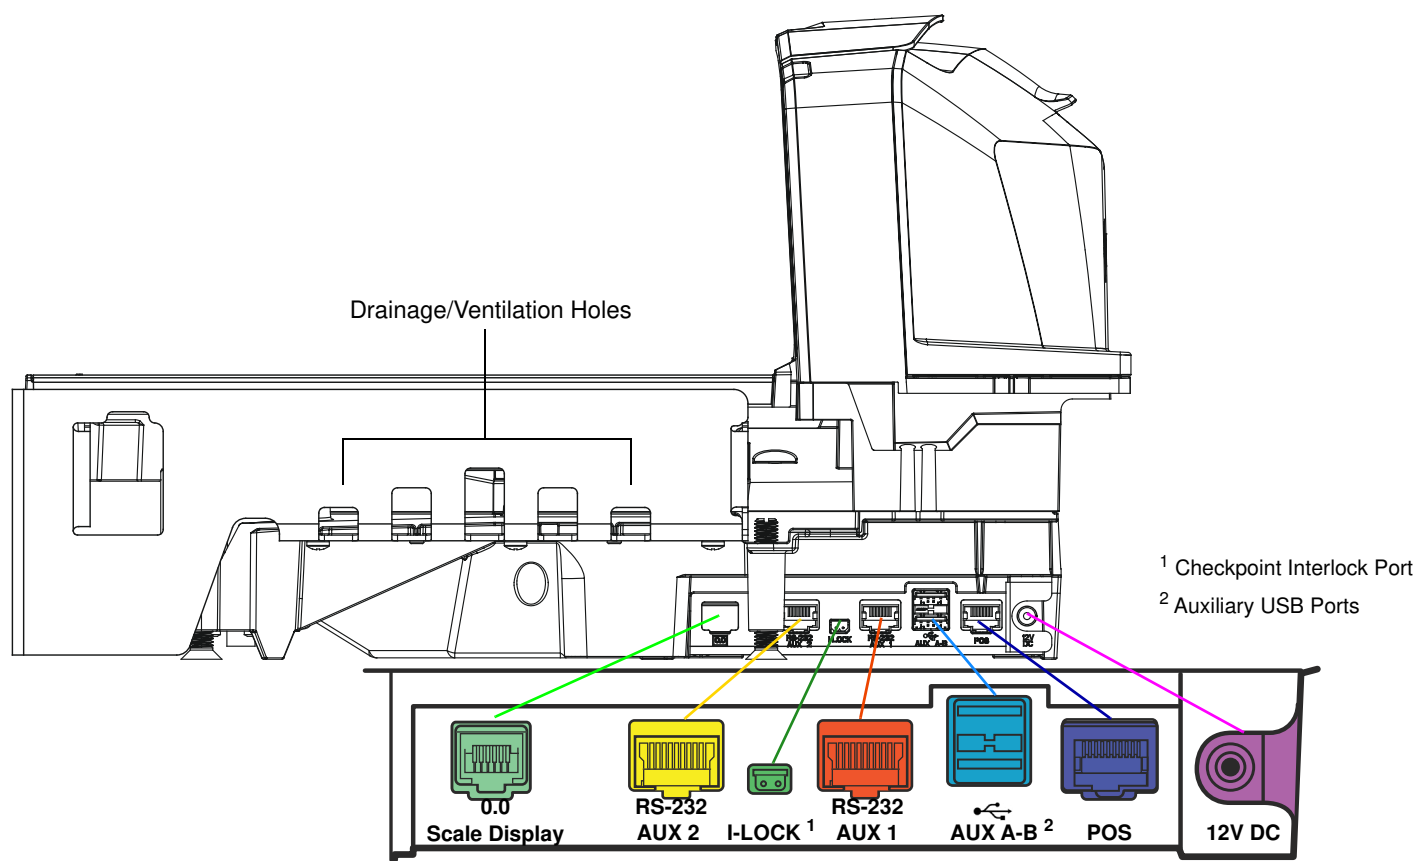

Figure 1-3 Right Side View/Connector Ports
- Two RS-232 auxiliary ports (AUX 1/AUX 2; see Figure 1-3 on page 1-8).
- Dual cable scanner/scale: Via RS-232 AUX 1, or RS-232 AUX 2 ports (see Figure 1-3 on page 1-8, and Table 2-3 on page 2-13).